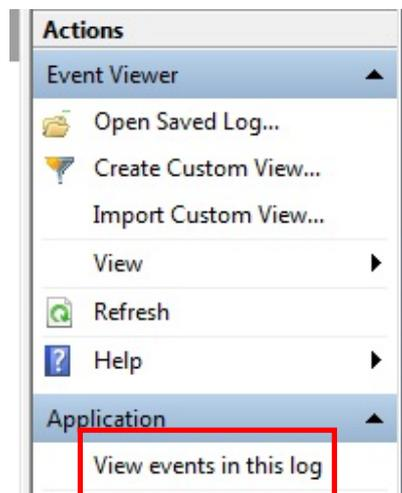

Fig 3-25
17. In the right pane of **Computer Management**, select **View events in this log** (Fig 3-25).